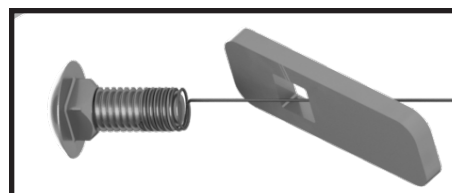

FIGURE A2: VIEW UNDER CHASSIS CHANNEL
2. Inspect the underside of each chassis channel and look for a rubbery material, see Figure A2. If present, use a scraper tool to remove the material.